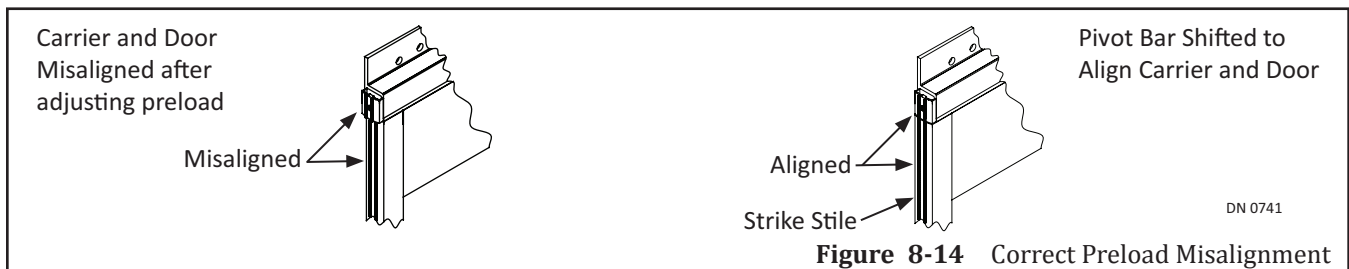

Figure 8-14 Correct Preload Misalignment
1. Loosen the Allen head fasteners in the pivot bar and slide the pivot bar in the hanger until the door and hanger are properly aligned. Please see Figure 8-14.